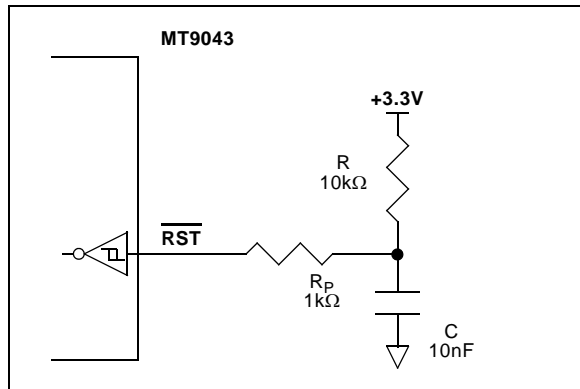

Figure 10 - Power-Up Reset Circuit
A simple power up reset circuit with about a 50us reset low time is shown in Figure 10. Resistor R_P is for protection only and limits current into the RST pin during power down conditions. The reset low time is not critical but should be greater than 300ns.
* See Figure 10.